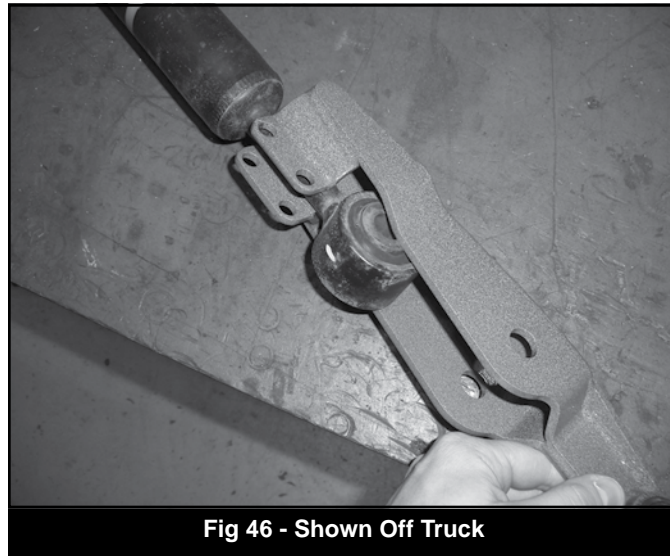

Fig 46 - Shown Off Truck
63. Locate the new lower strut extensions (A164 - 7" Lift, A165 - 4.5" Lift). Install the extension on the factory strut so the pinch tabs are toward the inside of the vehicle. Slide the extension over the strut body (Fig 46) to align the mount holes with the factory strut bushing and fasten with a 5/8" x 3" bolt, nut and washers (BP 648). Torque bolt to 125 ft-lbs. Note: The extensions may need to be tapped onto Bilstein struts because of the slightly larger body diameter. Use a rubber mallet.